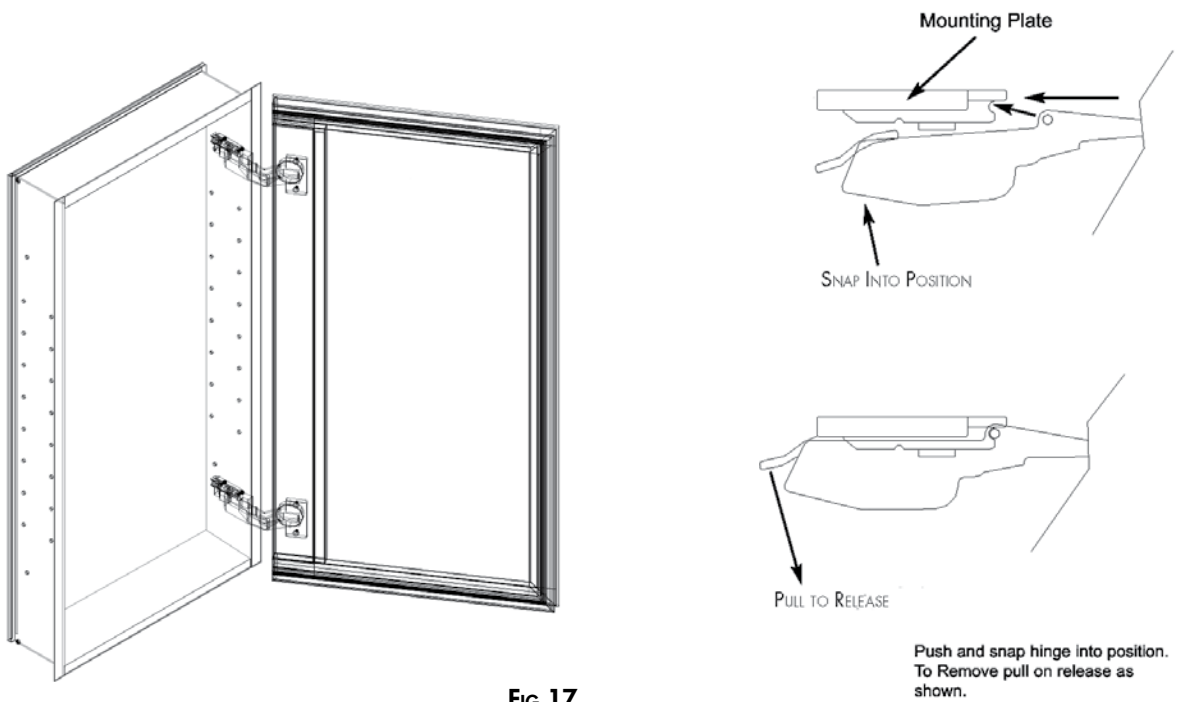

FIG 17
2. Line hinges up against hinge mounting plates. Snap into position (Fig 17).